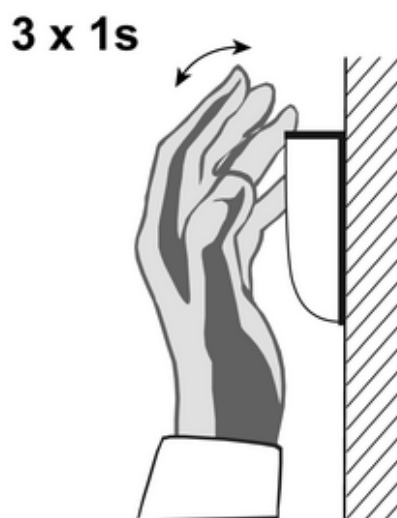

Figure 2
- Cover the motion detector with your hand for approx. 1 second at least three times within 9 seconds (Figure 2).